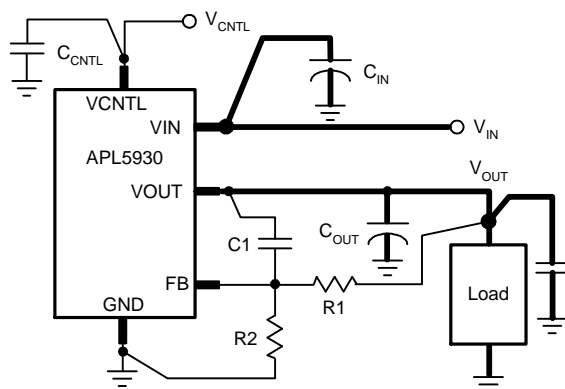

Figure 1
6. Large current paths, shown by bold lines on the figure 1, must have wide tracks.